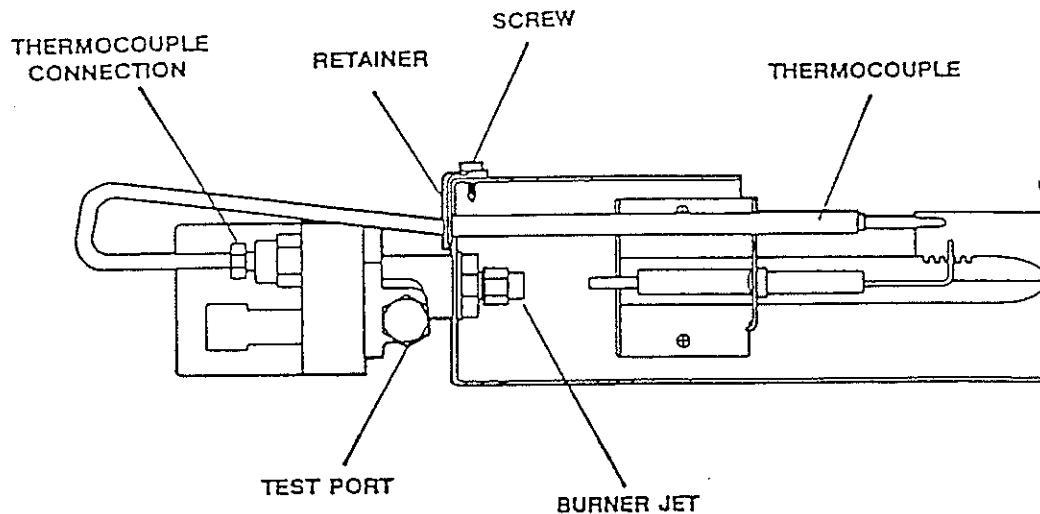

FIG. 8
- Remove cover (see FIG. 7) and open the manual gas valve WITHOUT turning the main switch "D". See "Section B. Operating Instructions, Item 2. Control Panel". Apply a non-corrosive commercial bubble solution to burner jet orifice. See FIG. 8.